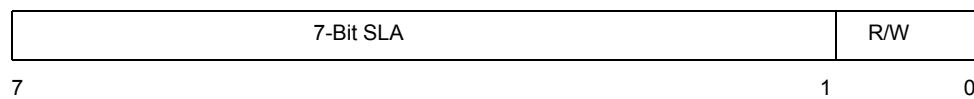

Figure 3: SDA First Transmitted Byte
Serial data is output through SDA while SCL outputs the serial clock. The first byte transmitted contains the slave address of the receiving device (7-bit SLA) and the data direction bit as in Figure 3. In this case the data direction bit (R/W) will be a logic '0' (W). Serial data is transmitted 8 bits at a time. After each byte is transmitted, an acknowledge bit is received. START and STOP conditions are output to indicate the beginning and end of a serial transfer.